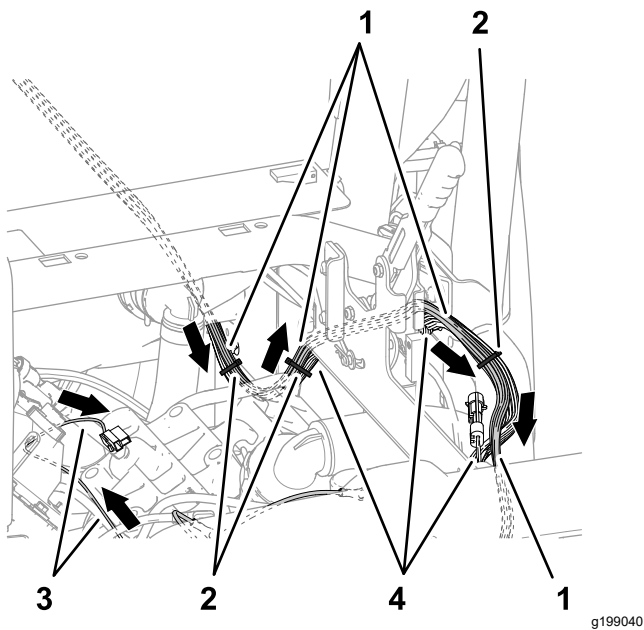
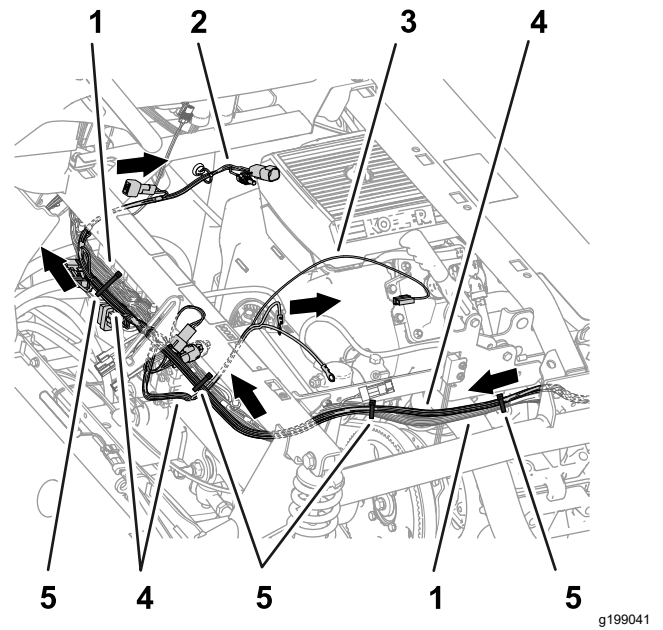

Figure 84
Figure 85
4. Route the 84 cm (33 inch), 60 cm (23-1/2 inch), and 66 cm (26 inch) wire-harness branches of the kit sprayer harness along the machine wire harness, outboard of the parking-brake assembly (Figure 84).
5. Route the 84 cm (33 inch), 60 cm (23-1/2 inch), and 66 cm (26 inch) wire-harness branches of the kit sprayer harness across the shock-support tube as shown in Figure 85.
6. Secure the kit sprayer harness to the machine wire harness as shown in Figure 83, Figure 84, and Figure 85.